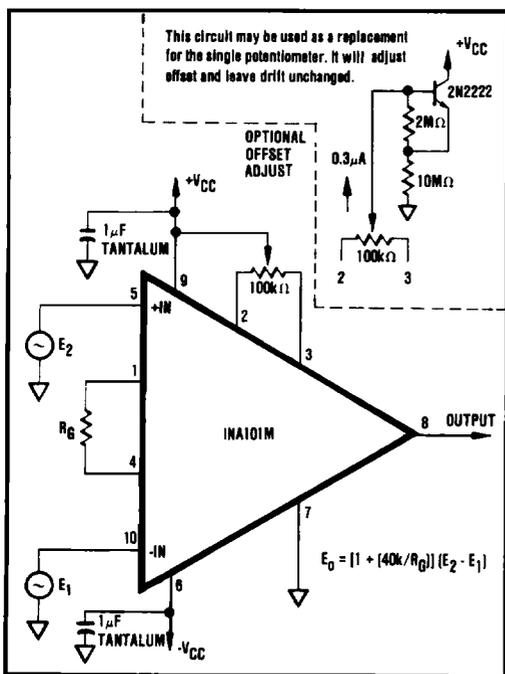
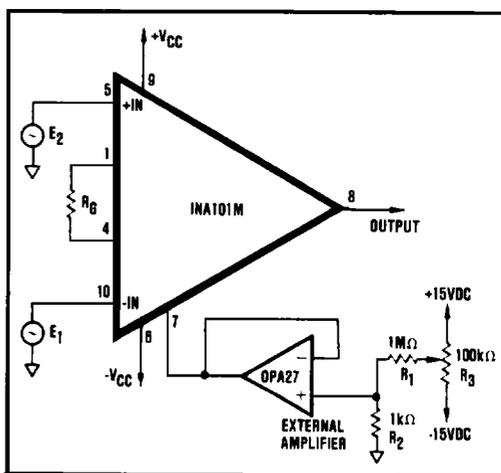

FIGURE 2. Basic Circuit Connection for the INA101 Including Optional Input Offset Null Potentiometer.
FIGURE 3. Optional Output Offset Nulling or Offsetting Using External Amplifier (Low Impedance to Pin 7).
At +25°C and in circuit of Figure 2 unless otherwise noted.
Figure 2 shows the simplest configuration of the INA101. The gain is set by the external resistor, R_G , with a gain equation of $G = 1 + (40k/R_G)$. The reference and TCR of R_G contribute directly to the gain accuracy and drift.
The optional offset null capability is shown in Figure 2. The adjustment affects only the input stage component of the offset voltage. Thus, the null condition will be disturbed when the gain is changed. Also, the input drift will be affected by approximately $0.31\mu V/^\circ C$ per $100\mu V$ of input offset voltage that is trimmed. Therefore, care should be taken when considering use of the control for removal of other sources of offset. Output offsetting can be accomplished in Figure 3 by applying a voltage to Common (pin 7) through a buffer amplifier. This limits the resistance in series with pin 7 to minimize CMR error. Resistance above 0.1Ω will cause the common-mode rejection to fall below 106dB. Be certain to keep this resistance low.
The basic circuit connection for the INA101 is shown in Figure 2. The output voltage is a function of the differential input voltage times the gain.
It is frequently desirable to null the input component of offset (Figure 2) and occasionally that of the output (Figure 3). The quality of the potentiometer will affect the results, therefore, choose one with good temperature and mechanical-resistance stability. The procedure is as follows:
3. Adjust to $100k\Omega$ potentiometer in Figure 2 until the output reads $0V \pm 1mV$ or desired setting. Note that the output will change when the gain is changed. If the output component of offset is to be removed or if it is desired to establish an intentional offset, adjust the $100k\Omega$ potentiometer in Figure 3 until the output reads $0V \pm 1mV$ or desired setting. Note that the offset will not change with gain, but be sure to use a stable external amplifier with good DC characteristics. The range of adjustment is $\pm 15mV$ as shown. For larger ranges change the ratio of R_1 to R_2 .